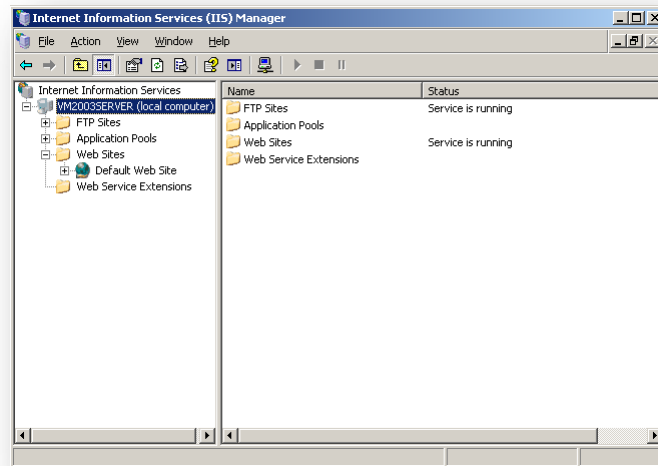

Figure 91 – Internet Information Services (IIS) Manager
2. If the Control Panel resembles Figure 91, the Control Panel is set to Category view. If the Control Panel is set to Category view, click on “System and Security”, then click on “Administrative Tools”.